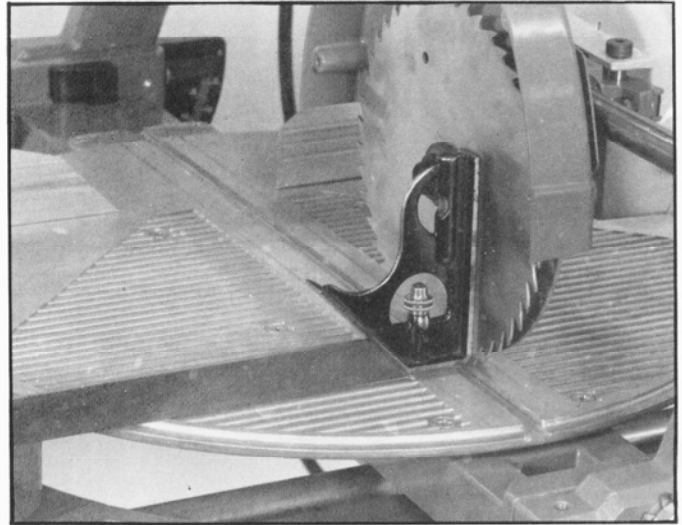

Fig. 29
2. Remove the left half of the saw blade guard and move the cuttinghead to the front of the table, as shown in Fig. 29. Place a square on the table with one end of the square against the blade, as shown in Fig. 29, and check to see if the blade is at 90 degrees to the table.